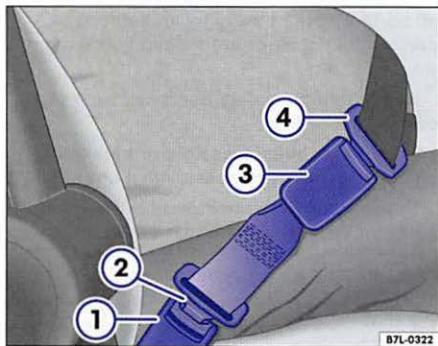

Fig. 56 A safety belt extender properly attached to the factory-installed safety belt.
Key to fig. 56:
- Insert the buckle tongue on the safety belt extender $\Rightarrow$ fig. 56 ② into the vehicle belt buckle for the seat where the safety belt extender is being used ①.